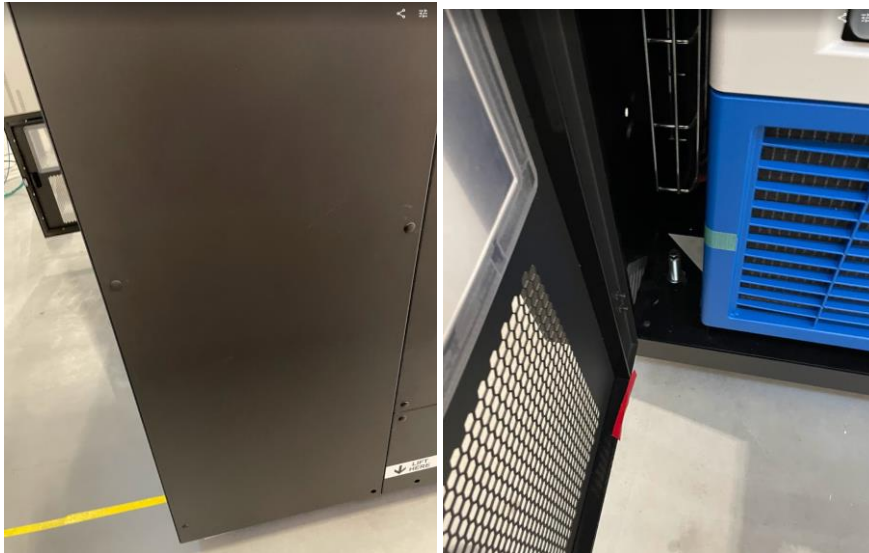

Figure 13f
- The sheet next to the inspection hatch on the left side must also be removed. You reach the last machine foot from the door to the water cooler. See fig 13f